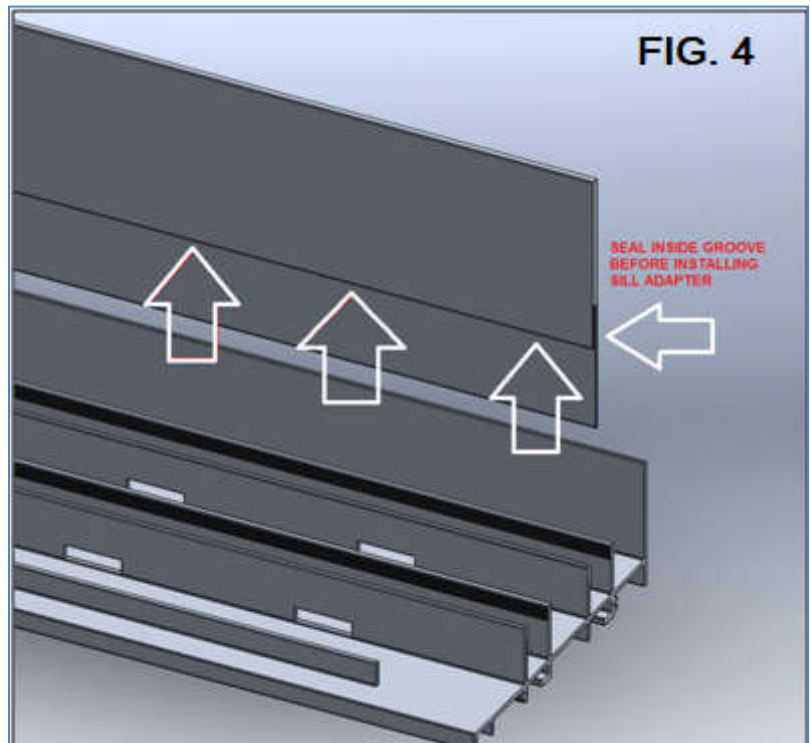

Figure 4
3) IF NEEDED TO MEET WATER PRESSURE REQUIREMENTS, apply the sill riser adapter to the main frame sill. First, place sealant along entire length of riser adaptor in area shown (See Figure 4).
3) Apply the sill riser adapter to the main frame sill. First, place sealant along entire length of riser adaptor in area shown (Refer to Figure 4)